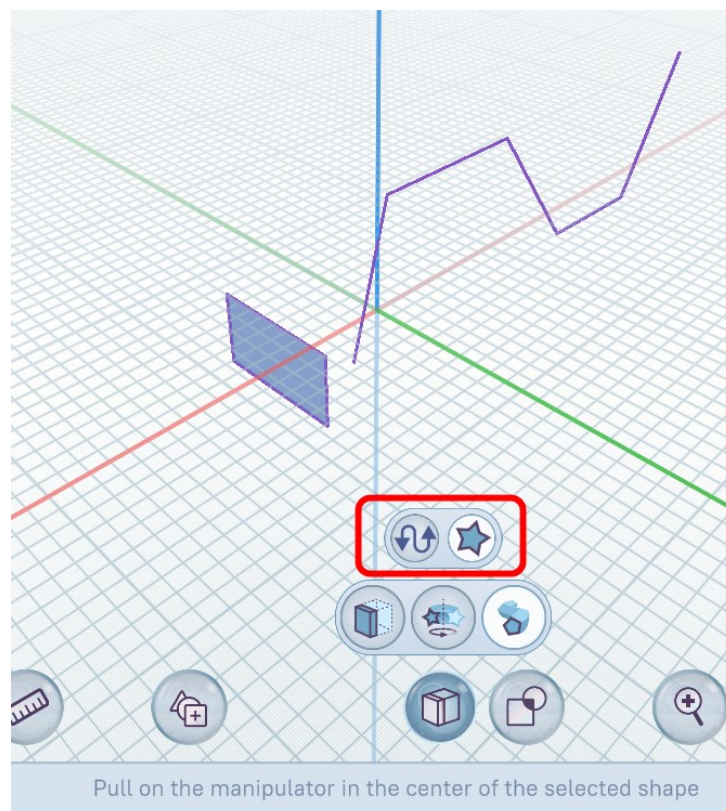

Figure 98 – Trajectory and sketch selection panel
- 4) Enable the **Moving Along a Trajectory** tool by clicking the  button on the tool settings panel. An additional panel will appear with buttons for selecting a path and a sketch (Figure 98).